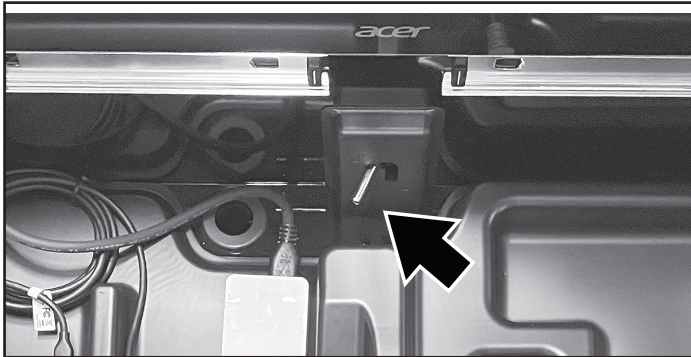

Figure 3
- Position the cart drawer lock lever to the unlocked position (Figure 3). (Unlocks all drawers)